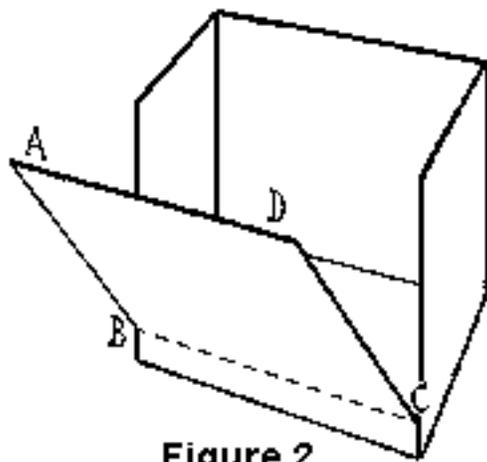

Figure 2
To make an ROB, start with a rectangular, rather tall, cardboard box (see below for dimensions). On one of the broader sides, draw a horizontal line (BC) about two inches above the bottom (figure 2) and cut the seams along AB (stop at B) and DC (stop at C). Fold down the front panel ABCD using BC as a hinge. Stack a few rectangular pieces of cardboard in the bottom of the box, to raise the floor level up to the level of BC.